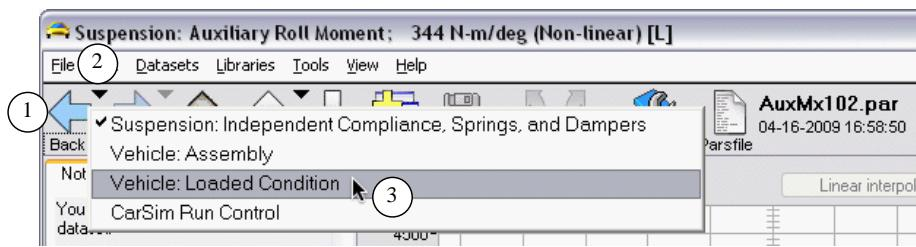

Figure 78. A menu of previously visited screens with the extended **Back** control.
7. As with a web browser, you can trace your steps back using a **Back** button ① (Figure 78). Click on the **Back** button to go back one level (or type **Ctrl+←**). Click and hold the small triangle ② next to the **Back** button to pull down a menu ③ of all of the screens that can be reached by repeatedly clicking the **Back** button; you can use this menu to jump to any of these screens.